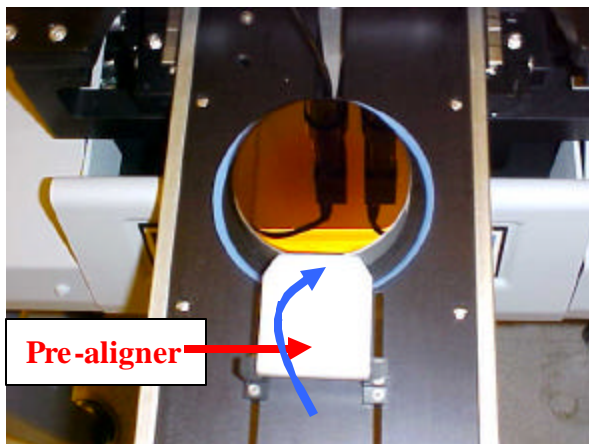

Figure 15. Wafer Pre-Alignment
12. Put the “pre-aligner (a piece of plastic)” on the wafer chuck and put your wafer in a manner that wafer’s primary flat touches with the “pre-aligner” (Fig. 15).